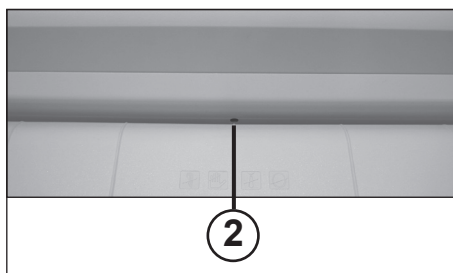

Fig. 2
- 2 = Light barrier (forward operation) (fig. 2)**